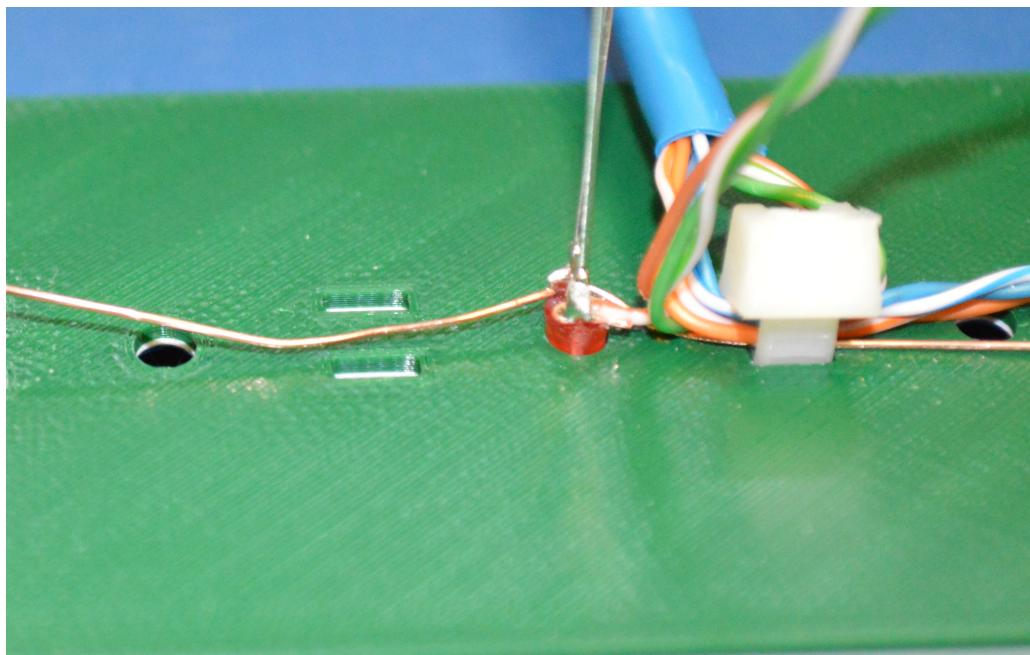

Figure 2.10: Solder the First LED
- Solder the first LED to one side of the cable. This one is the hardest as there is only a short length of wire to work with. See Figure 2.10.